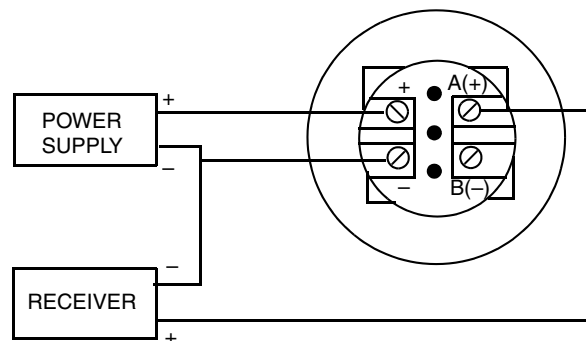

Figure 16. Three-Wire Connection
For relatively short wiring runs having low resistance, three-wire connections as shown in Figure 16 can be used to minimize wiring costs. However, a voltage drop in the common lead carrying the power supply current causes an error in the 1 to 5 V dc signal.
6. Connect the power supply and receivers (such as controllers, recorders, indicators) as shown in Figures 16 and 17. Typical loop wiring is shown in Figure 18.